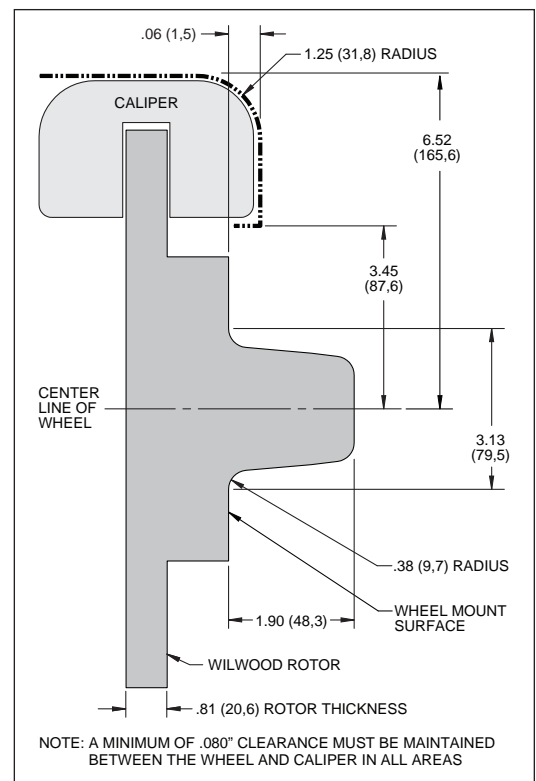

Figure 2. Wheel Clearance Diagram
- Review the Wheel Clearance Diagram (Figure 2, page 4) to verify that there is adequate clearance with the wheels you will be using with the installation.
- Verify wheel clearance utilizing Figure 2.
- WARNING:** The wheel contact surfaces must seat completely on the face of the hub. If any contact surfaces overhang the outside diameter of the hub face, a 6.60" diameter x .20" thick steel spacer (item 24, Wilwood P/N 300-11961) MUST be used between the wheel and the hub.